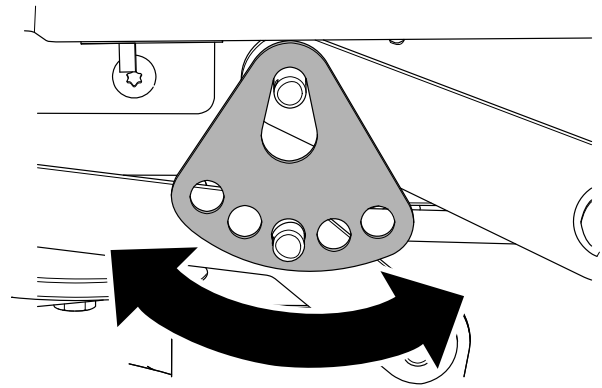

**Figure 69**
- Remove the hairpin cotter and washer from the lower lift-arm pin (Figure 69).